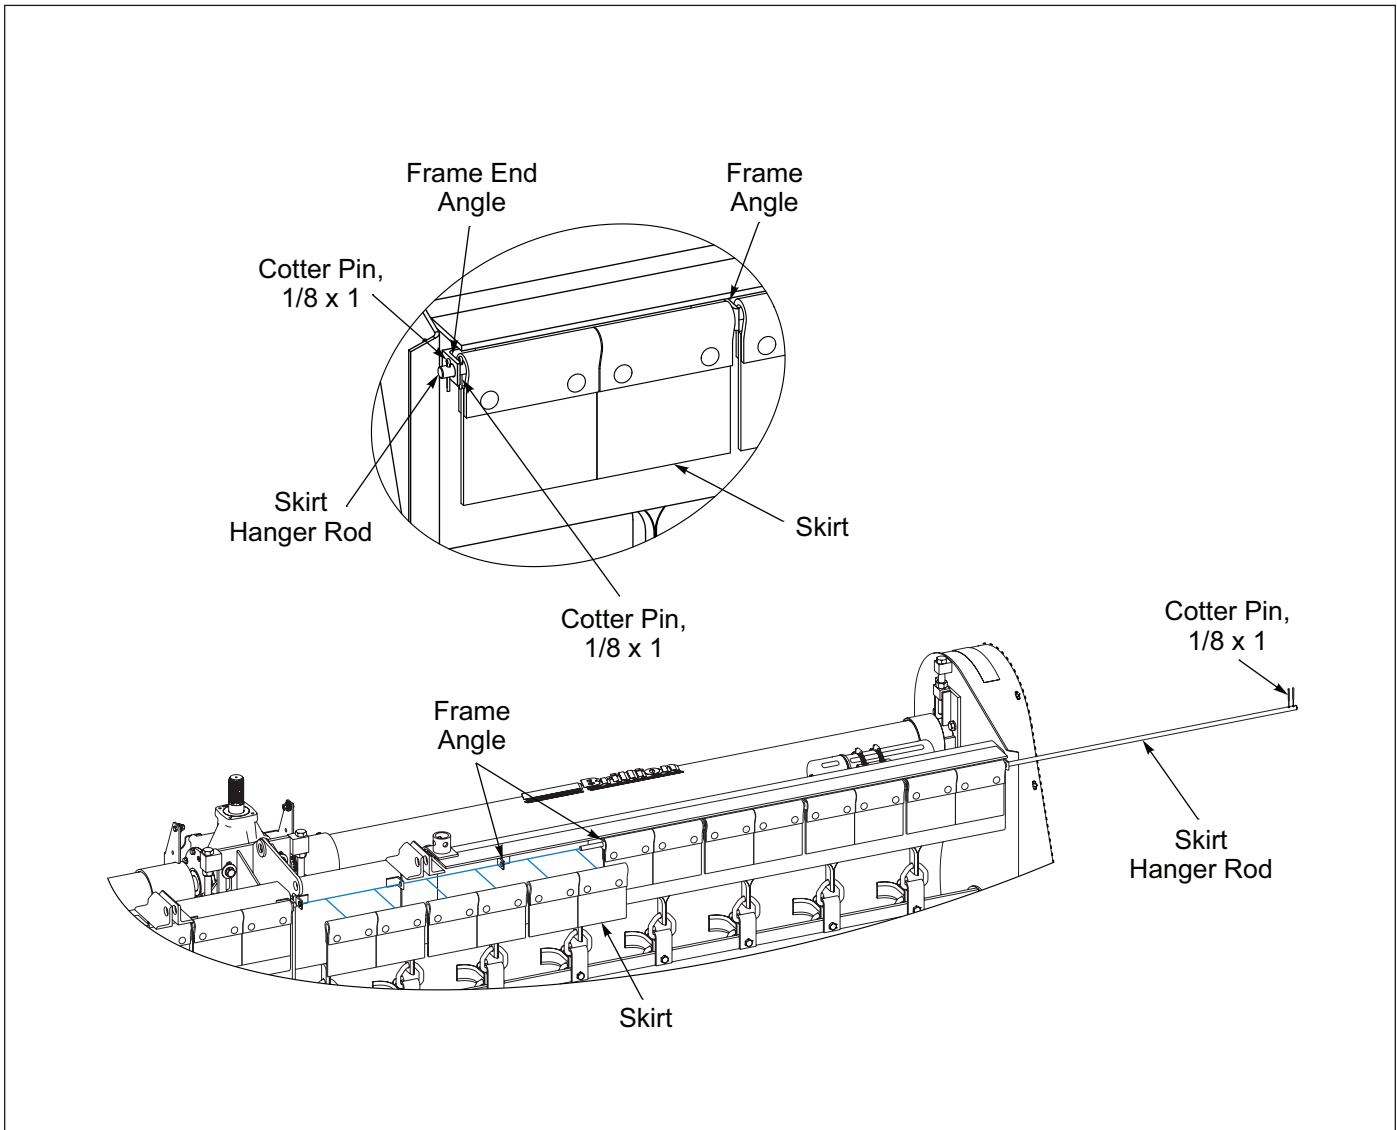

Figure 2-2: Flail Shredder Skirt Installation
2. The Flail Shredder should be standing vertical on the shipping stands. On each end of the Shredder, by the Front Frame Tube, remove the Skirt Hanger Rod and install two debris Skirts between each Frame Angle. Secure Skirt Hanger Rods at the ends of the Shredder Frame between the Frame End Angle with Cotter Pins. **See Figure 2-2.**